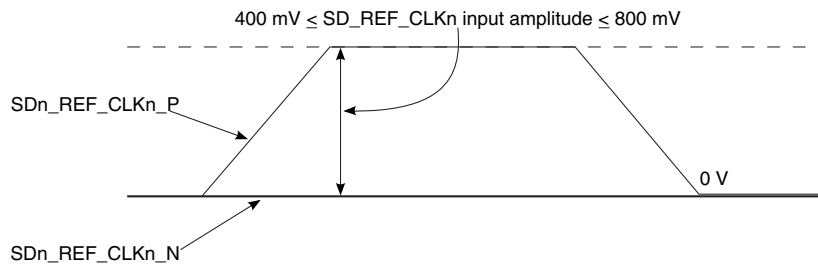

Figure 71. Single-ended reference clock input DC requirements
- The SDn_REF_CLKn_P input average voltage must be between 200 and 400 mV. **Figure 71** shows the SerDes reference clock input requirement for single-ended signaling mode.